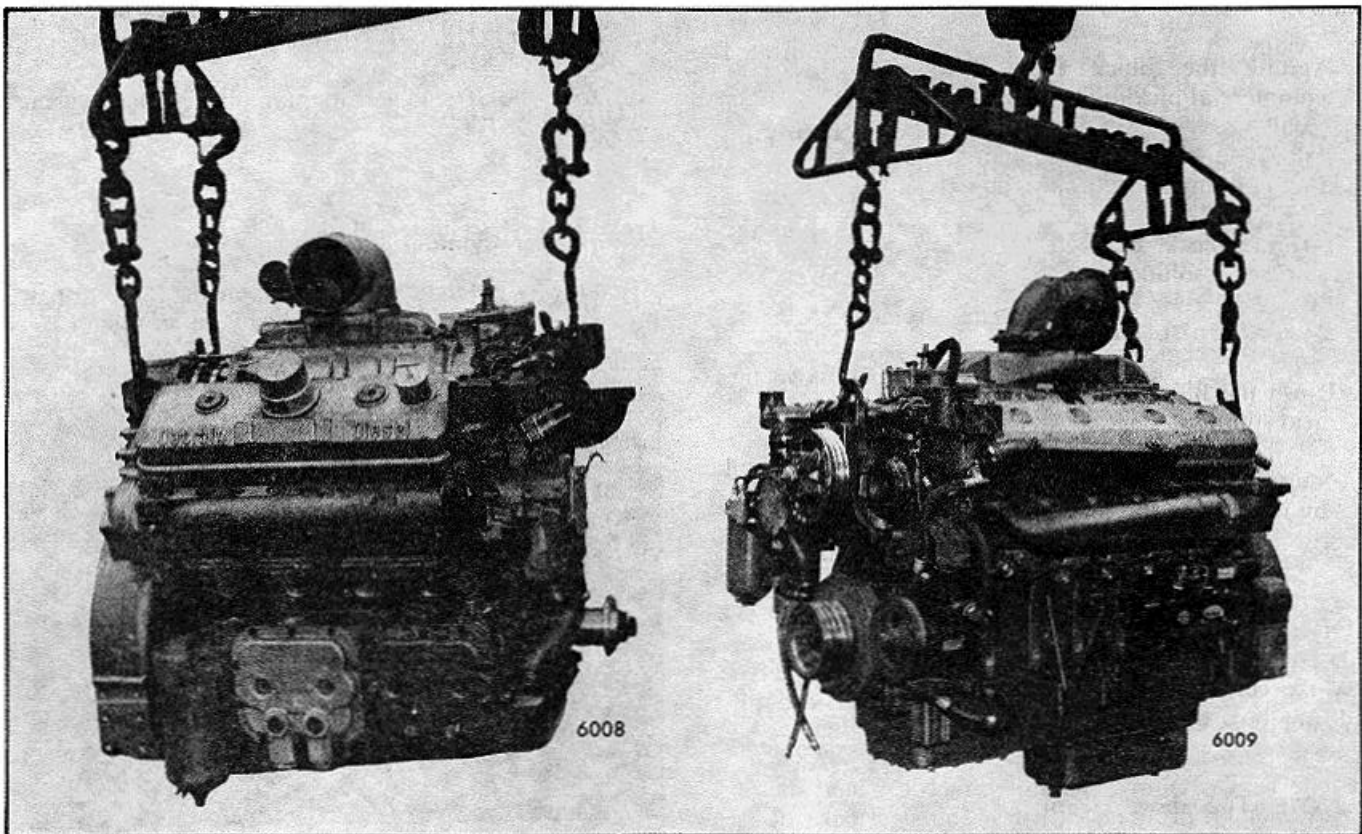

FIG. 4 - Lifting Engine with Spreader and Sling
16. Use a spreader bar with a suitable sling and adequate chain hoist to lift the engine from its base (Fig. 4). To prevent bending of the engine lifter brackets the lifting device should be adjusted so the lifting hooks are vertical. To ensure proper weight distribution, all engine lifter brackets should be used to lift the engine